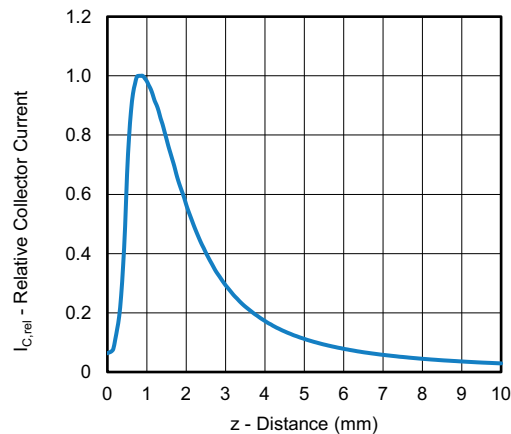

Fig. 3 - Relative Collector Current vs. Distance
The VCNT2030 is a reflective proximity sensor with an analog transistor output. The VCSEL sends out a beam of infrared (IR) light. A close object will subsequently reflect part of that light back towards the sensor. The reflected signal induces a photocurrent that is amplified at the detector. The amplitude of the output current correlates directly and proportionally to the amount of the received IR irradiation. On the other hand, the amount of radiation that is reflected back depends on various factors, the most prominent of which are the distance between the sensor and the reflective object and the reflectivity of the object. This leads to a dependence of the output current on the distance to a reflective object, as shown in Fig. 3. The distance curves were recorded using a Kodak Gray Card that has a calibrated, diffuse reflecting surface of 20 %. The distance is measured from the top of the sensor. The emitter current  $I_E$  is held constant at 8 mA.
However, this value applies for an object at 1 mm, and therefore has to be further reduced since the distance from the sensor in this scenario was defined as 2 mm. From the distance curve in Fig. 3, the relative collector current at a distance of 2 mm is estimated as about 0.55 times the maximum collector current. Compared with the collector current at 1 mm, a distance of 2 mm leads to a reduction in of the collector current of  $0.55 / 0.95 = 0.58$ .